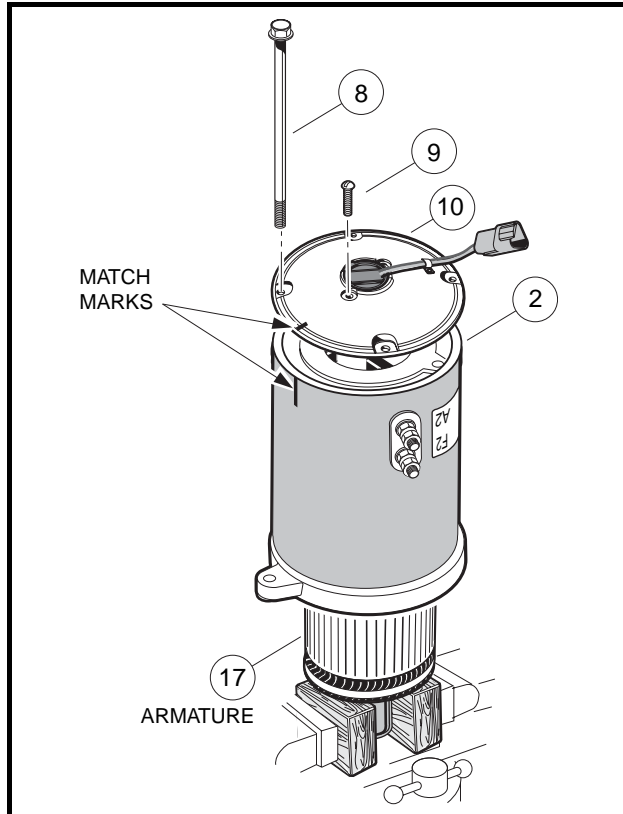
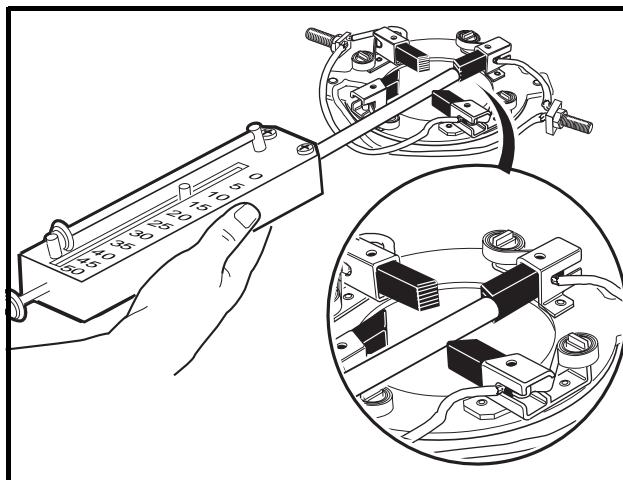
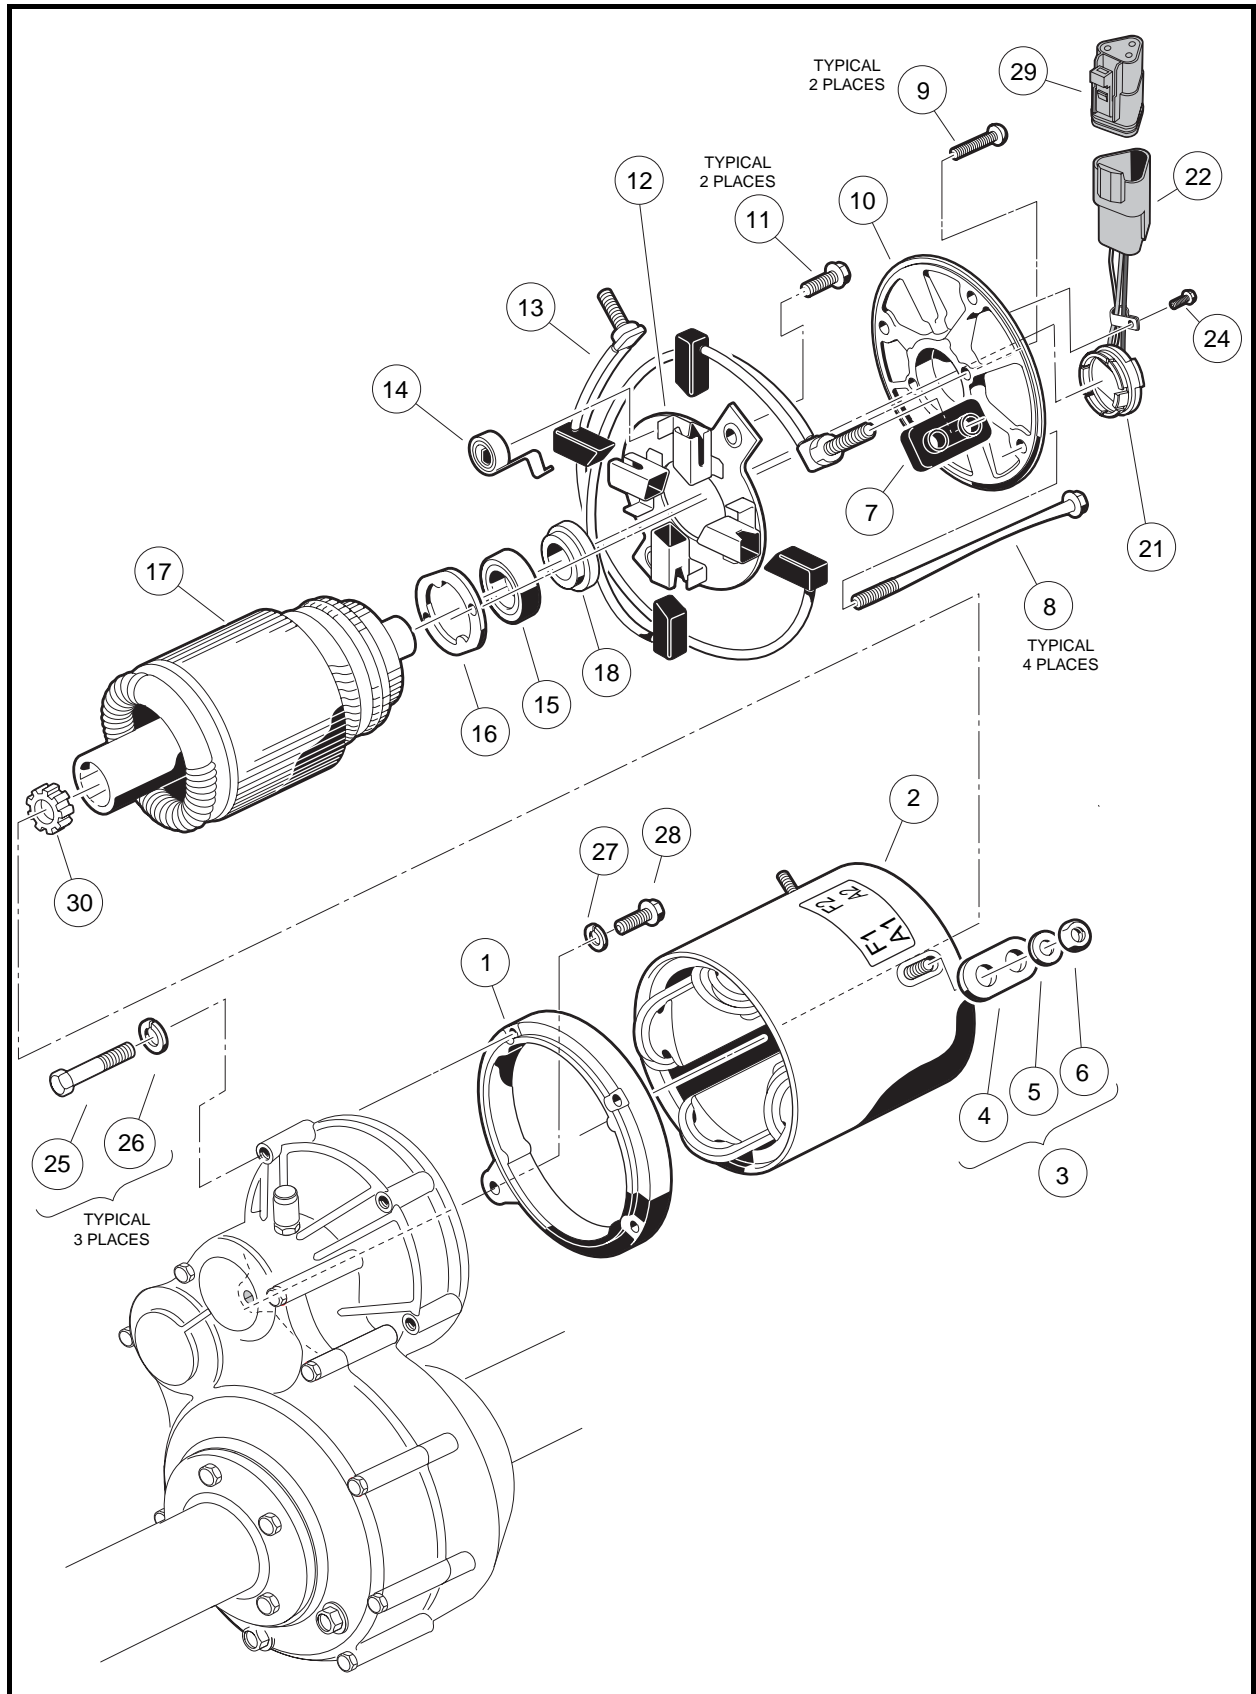
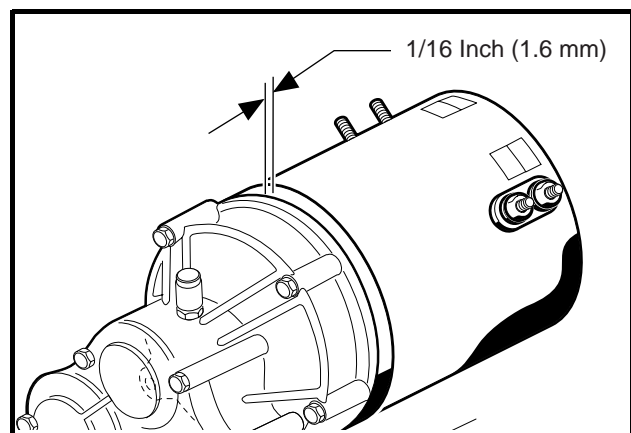

Figure 16-5 Motor Disassembly
Figure 16-8 Brush Spring Tension Test
Figure 16-10 Motor
Figure 16-17 Gap at Motor and Transaxle
- Before beginning disassembly, place match marks on the motor end shield and stator shell, then place the motor in a vice with wooden blocks as shown (**Figure 16-5, Page 16-5**).
- Remove the four bolts (8) securing the end shield (10) to the stator shell (2).
- Remove the two screws (9) attaching the end shield to the bearing retainer.
- Slide the armature (17) out of the opposite end of the stator shell (2).
- Remove two screws (11) attaching brush rigging (12) to the stator shell (2) (**Figure 16-10, Page 16-8**).
- Mark the brush terminal posts (A1 and A2) (13) to identify their positions in the stator shell, then remove the nuts (6) and flat washers (5) (**Figure 16-10, Page 16-8**). From the outside, push the posts through the stator shell wall into the interior of the stator shell.
1. Inspect the insulators (4 and 7) for cracks or other damage (**Figure 16-10, Page 16-8**).
2. Inspect the brushes (13) for damage or excessive wear. Replace brushes if required. **See following NOTE.**
3. Inspect the brush springs (14) (**Figure 16-10, Page 16-8**). Replace springs that are discolored from heat (light gold or blue tinted). Replace springs which apply a force of less than 16 oz. (**Figure 16-8, Page 16-7**).
1. Place the wedge attachment tool (CCI P/N 1012812) between the bearing (15) and the armature (17) (**Figure 16-10, Page 16-8**). Make sure the wedge attachment tool is supporting the inner race of the bearing. If a press is not available, secure a bearing puller (CCI P/N 1012811) to the bearing and pull the bearing off of the end of the armature shaft. Support the shaft so it will not drop when the bearing is removed (**Figure 16-11, Page 16-11**). Discard the bearing and speed sensor magnet. **See following NOTE.**
1. Press a new bearing (15) onto the armature (**Figure 16-10, Page 16-8**). Use an arbor press that exerts pressure on the inner race only. **See following NOTE.**
**NOTE:** Make sure the bearing retainer (16) is positioned on the armature shaft before the bearing is pressed onto the armature (**Figure 16-10, Page 16-8**).
Inspect the speed sensor magnet (18) for rust, wear, and cracks (**Figure 16-10, Page 16-8**). Replace the magnet if necessary.
1. To remove the speed sensor magnet (18), remove the motor bearing (**Figure 16-10, Page 16-8**). **See Bearing Removal on page 16-9.**
- 3.1. Attach the end shield (10) to bearing retainer (16) by aligning the two holes in the bearing retainer with the two mating holes in the end shield and installing the screws (9) (**Figure 16-10, Page 16-8**). Tighten the screws to 17 in-lb (1.9 N·m). **See following NOTE.**
- 3.2. Align the match marks on the end shield and the stator shell, then install the four screws (8) (**Figure 16-10, Page 16-8**). Tighten the screws to 90 in-lb (10 N·m).
- 3.1. With the flat side toward the bottom of the coupling, install the molded bumper (30) into the motor coupling (Figure 16-10, Page 16-8). See following NOTE.
When the motor is pushed onto the input shaft, the motor adapter ring (1) will not bottom out against the transaxle housing (Figure 16-10, Page 16-8). There will be approximately 1/16 inch (1.6 mm) gap between the motor adapter ring and transaxle housing as shown (Figure 16-17, Page 16-13).